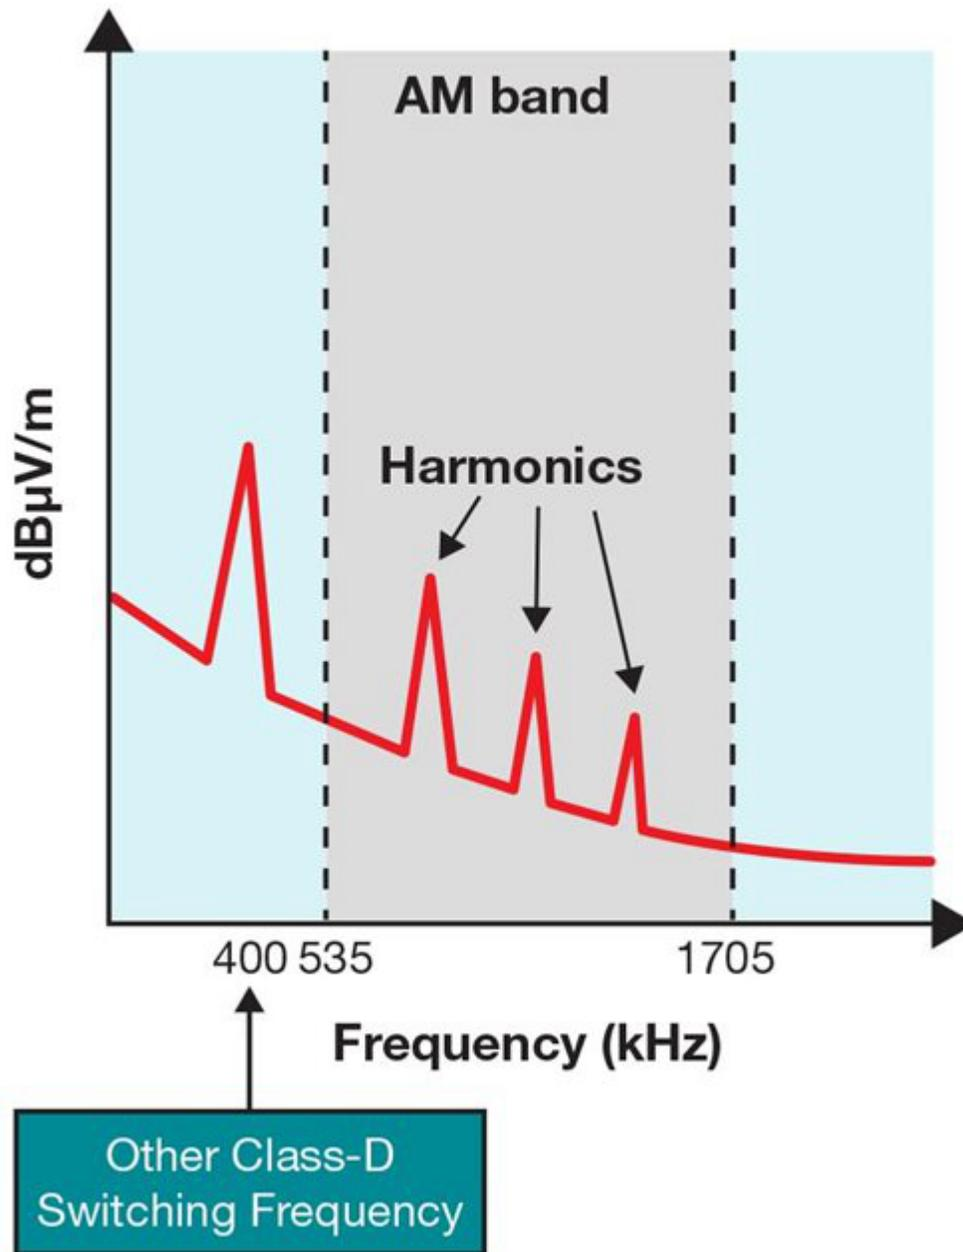

Figure 4. Typical 400-kHz Class-D Amplifier Harmonics
- The TPA6304-Q1 device design is highly optimized to manage overall EMC behavior. Also, the 3.3- μ H inductors discussed previously are part of the inductor-capacitor (LC) filter, which helps minimize EMC from the high-speed switching transients on the output stages of Class-D amplifiers.
- Traditional Class-D amplifiers that switch in the 400-kHz range create harmonics that lay directly within the AM band, as shown in Figure 4. These harmonics create interfering signals that reduce AM receiver sensitivity, thereby hindering AM radio station reception. Therefore, some type of EMI avoidance scheme